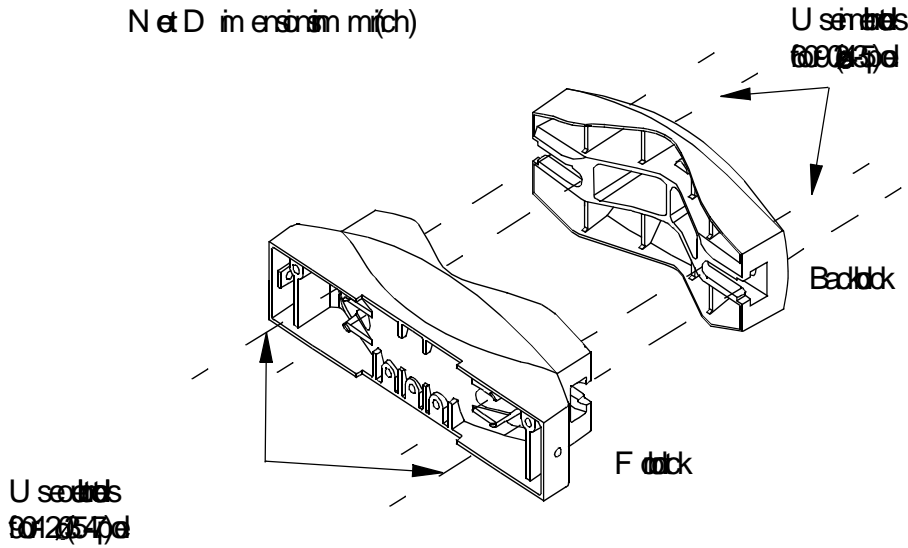

Fig. 5. Front and back pole bracket
11. Tighten the two offset screws (B3, B4) M6 x 25mm on the L-beam from the underside. Tighten to 24 Nm. Refer to Figure 5.